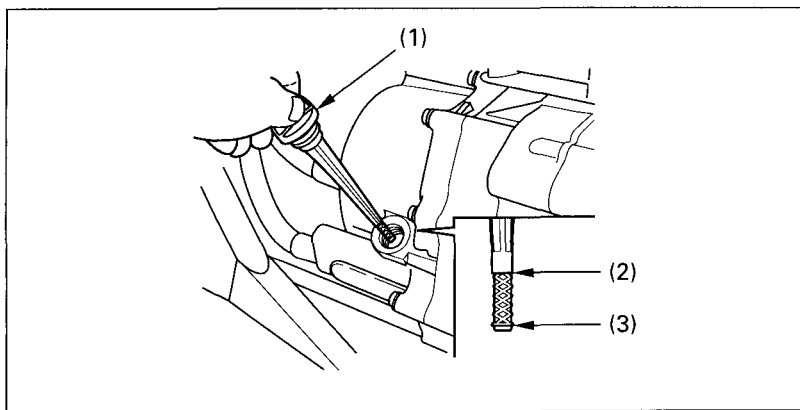

Fig. 2-16 (1) Oil filler cap/dipstick
The oil filler cap/dipstick (Fig. 2-16), on the front crankcase cover, is used to measure the oil level. The oil should be checked each day before operating the Sportrax and maintained between the upper level mark (2) and the lower level mark (3).